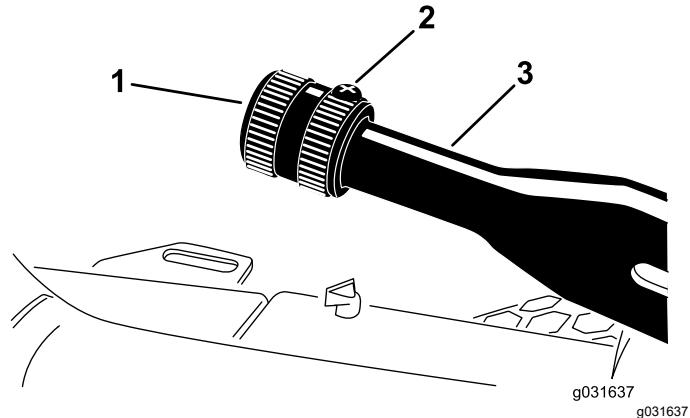

Figure 54
1. Loosen the set screw securing the knob to the parking-brake lever (Figure 54).